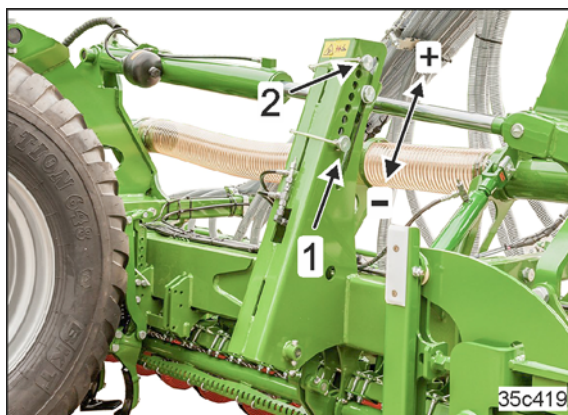

Fig. 182
- o Put it in float position (Fig. 182/1).
- o Apply pressure by actuating the *blue* control unit (Fig. 182/2).
- The coulters are working with normal coulter pressure (Fig. 182/1).
- The coulters are working with increased coulter pressure (Fig. 182/2).